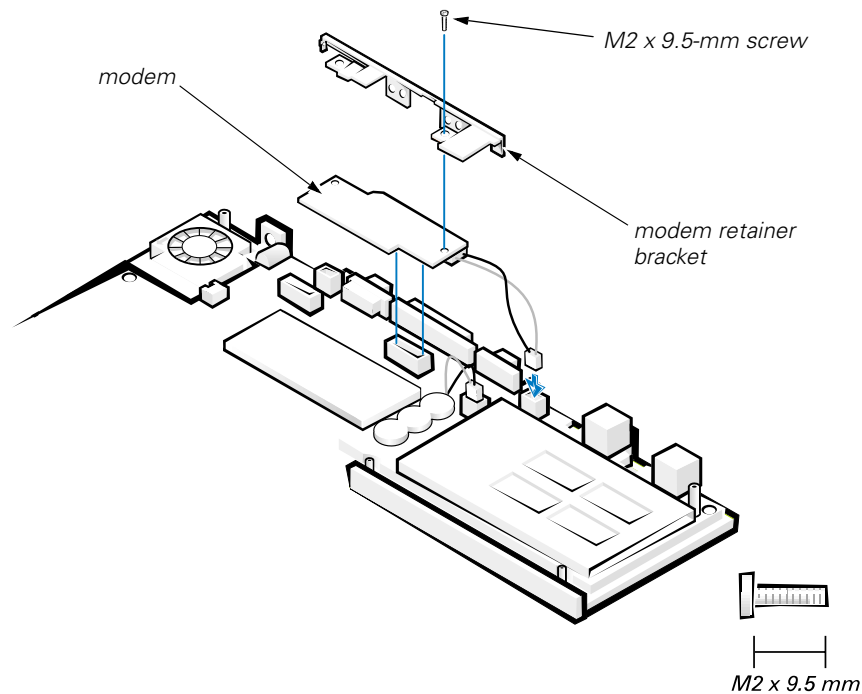

Figure 19. Modem Removal
7. Remove the M2 x 9.5-mm screw that secures the modem retainer bracket and modem to the system board (see Figure 19).